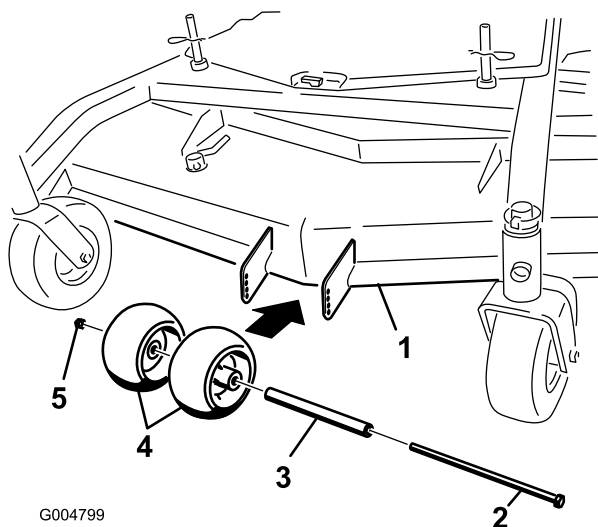
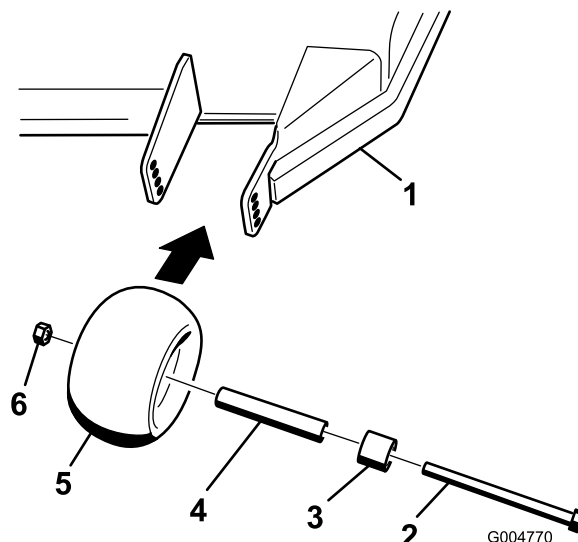
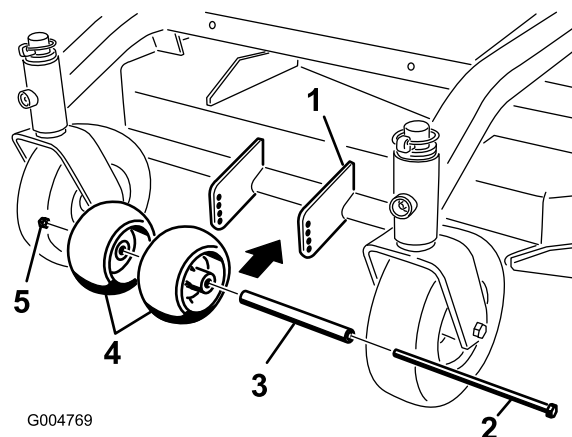

Figure 13
Figure 14
Figure 15
1. After adjusting height-of-cut, check the anti-scalp rollers so that there is a minimum of 3/8 inch (10 mm) clearance above the ground (Figure 13, Figure 14, Figure 15).
2. If adjustment is needed, remove the bolt, washers and nut (Figure 13, Figure 14, Figure 15).
3. Select a hole position so the anti-scalp rollers are a minimum of 3/8 inch (10 mm) off the ground (Figure 13, Figure 14, Figure 15).
4. Install the bolt and nut (Figure 13, Figure 14, Figure 15).